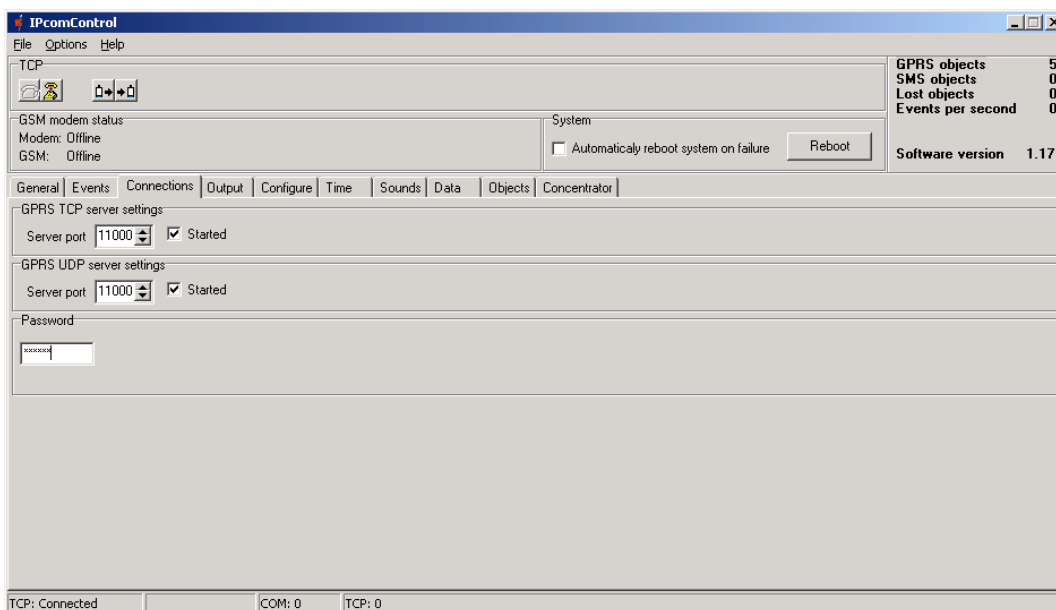

Figure 13.
8.11 In the **Connections** tab (Fig. 13) parameters for IPcom program's signal receiving ports can be set.